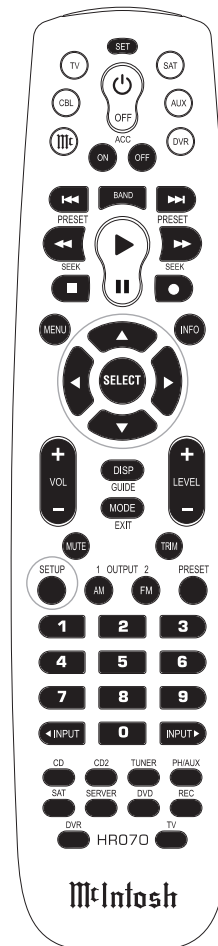

Figure 8
1. Press and release the SETUP Push-button on the Remote Control to enter the Setup Mode. Refer to figure 8. The words “Installer Menu” will appear on the Front Panel Information Display and the Installer Menu (main menu) will appear on the Monitor/TV Screen. Refer to figures 9 and 10.